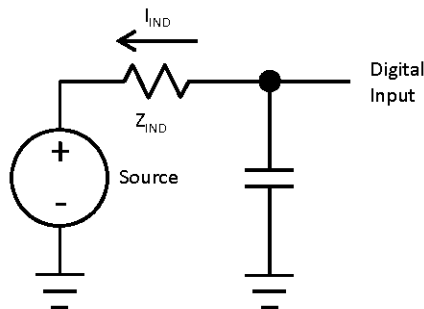

Figure 2. 5 V Tolerant Input IIND Parameter
- Examples calculated using V_{IL} relation, V_{DD}, and max I_{IND}: Z_{IND}=V_{IL}/I_{IND}. This is the impedance needed to pull a high signal to a level below V_{IL} due to leakage when V_{IL} < V_{IN} < V_{DD}. These examples assume signal source low = 0 V. See Figure 2.